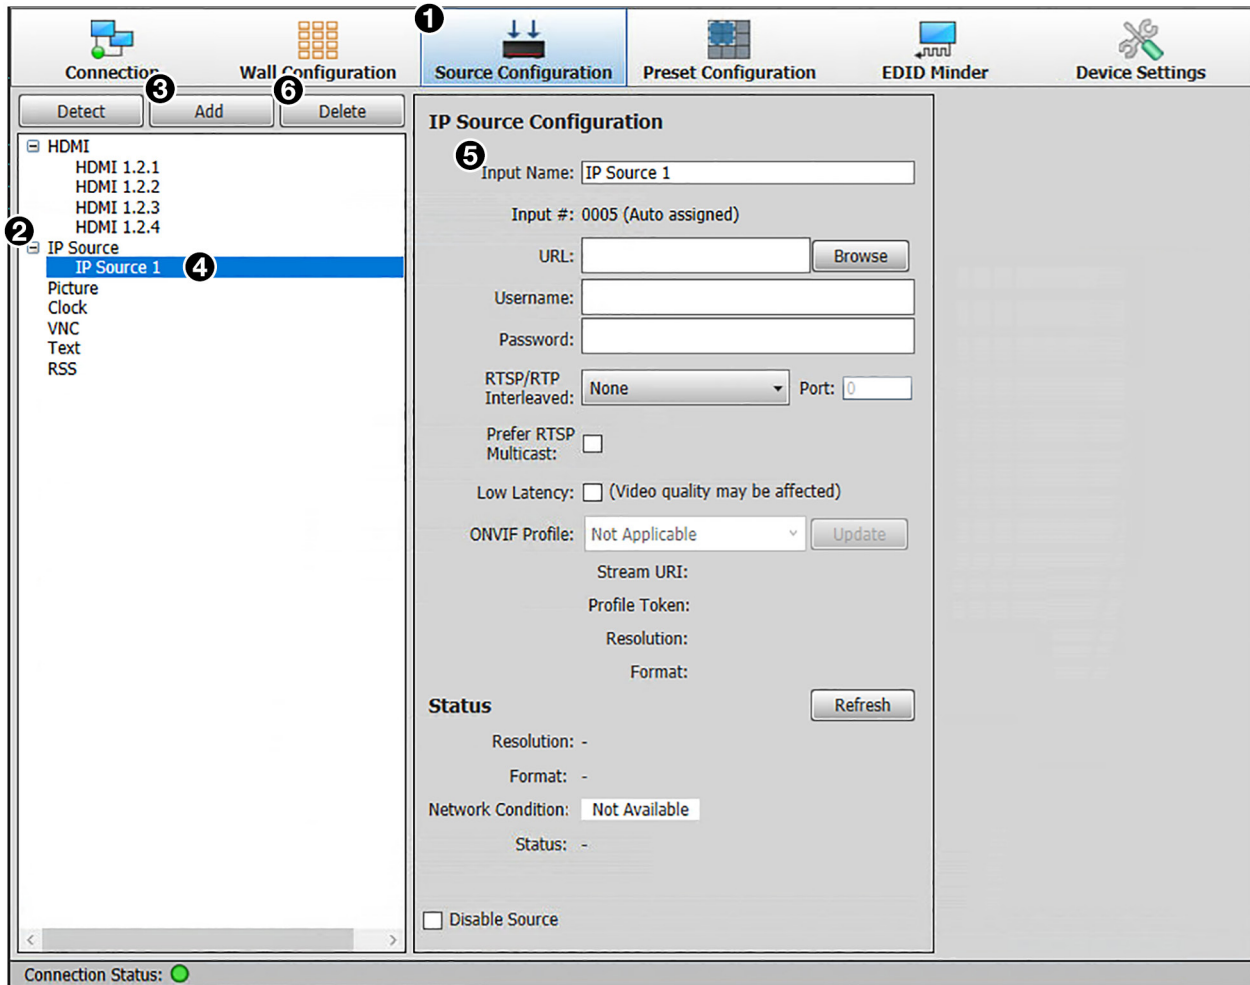

Figure 5. Source Configuration Window (IP Source Example)
- On the taskbar, click the **Source Configuration** button (see figure 5, 1 on the next page) to display the Source Configuration screen.
- Select a source type.** In the Source Configuration Tree (left panel), click a source type to add (2). Depending on the cards installed in your unit, HDMI, IP Source, or both may be listed. Picture, Clock, VNC, Text, and Really Simple Syndication (RSS) source types are always available for configuration.
- Add a source.** Click **Add** (see figure 5, ③) to add a source of the selected type, or right-click the source type to add and select **Add** from the pop-up menu. One or more source names are added in the Source Configuration Tree below the source type (④).
NOTE: The number of sources added depends on the cards installed in your unit. For example, if one HDMI input card is installed, selecting **HDMI** displays four source names, as shown in figure 5).